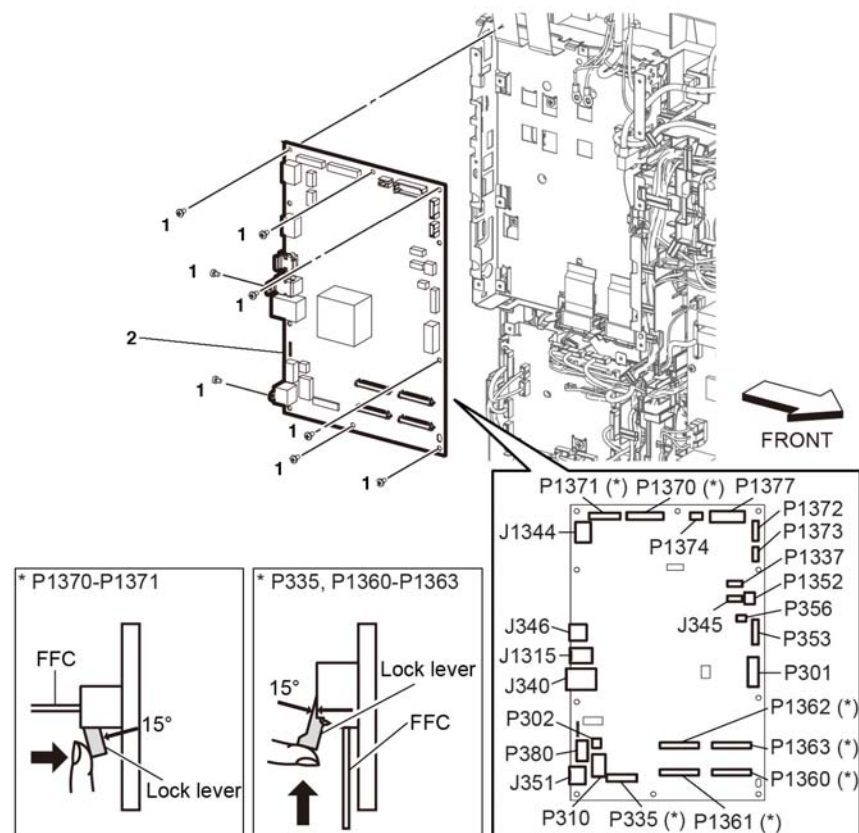

Figure 1 ESS PWB removal
5. Remove the ESS PWB, Figure 1:
- a. Remove two screws (1), then remove the ESS lower plate (2).
- b. Remove two screws (3), then remove HDD bracket (4).